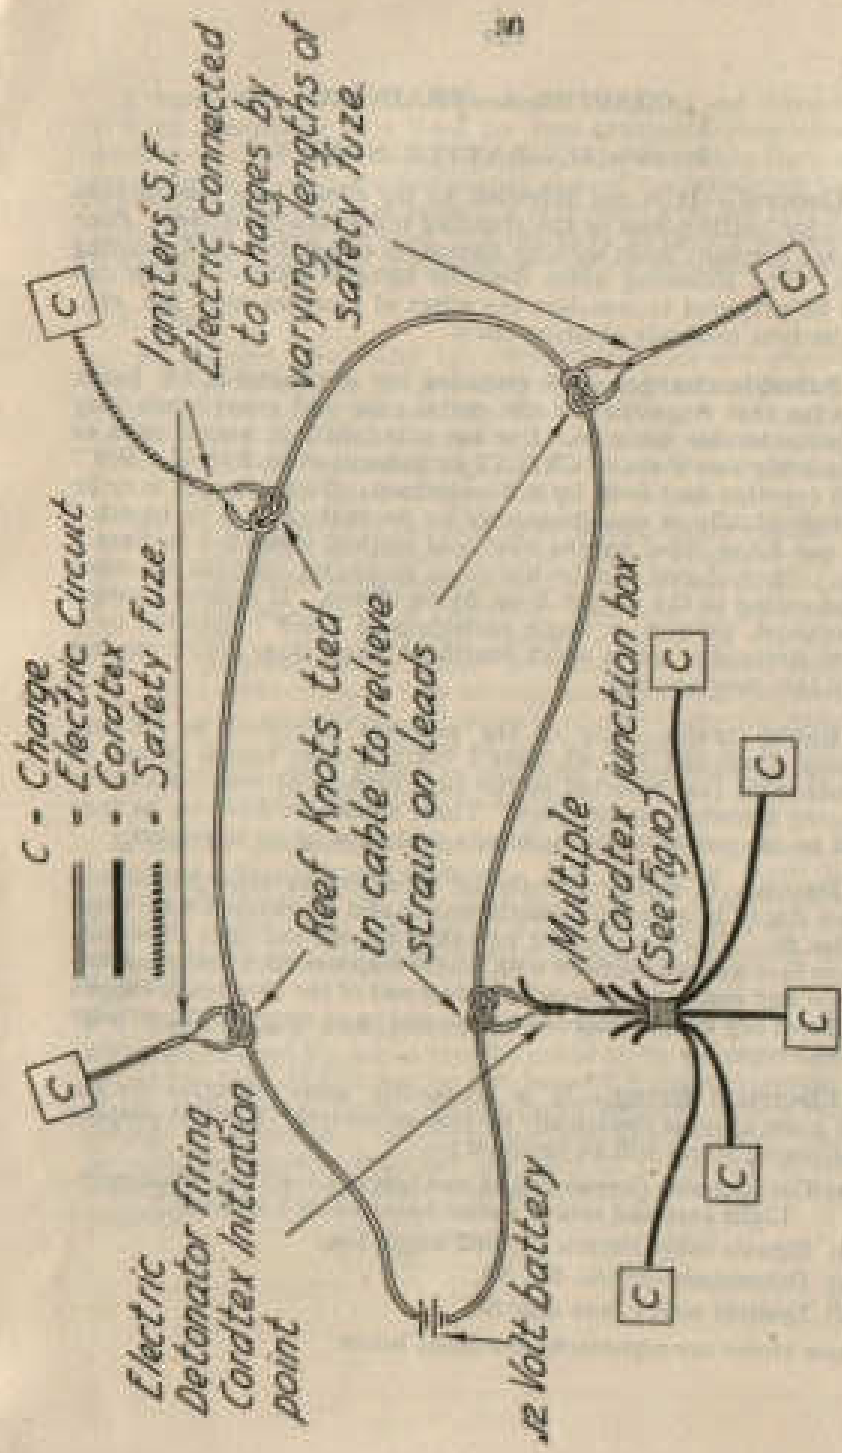

Fig 20. Diagrammatic layout of electrical circuit for battle noises
6. Detonator electric No. 33.—This consists of a No. 27 detonator (see Sec 5) with an electric firing head on the top. When an electric current of sufficient strength is passed through the head a flash occurs which fires the detonator. A fully charged battery will produce sufficient current to fire a certain number of detonators connected in series with the battery through a given length of cable. The term "in series" means that the detonators are connected up by lengths of cable, the circuit starting at one terminal of the battery, passing through each detonator in turn and finishing at the other terminal (see Fig 20). Table 3 shows the number of No. 33 detonators or igniters which can be fired by standard 6- and 12-volt batteries through different lengths of cable, assuming batteries **FULLY CHARGED**.